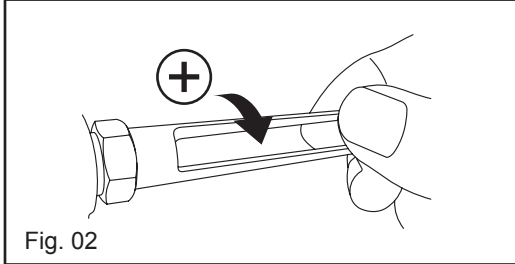
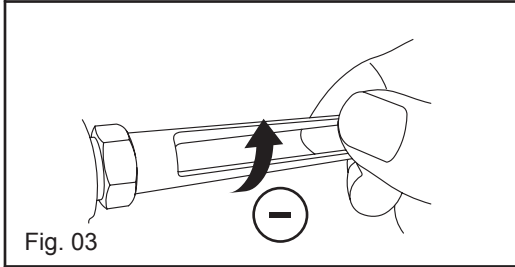

Fig. 02
Fig. 03
2. To activate the self-aspiration of the rivets and to set the desired suction turn vacuum switch (Fig. 02) counter-clockwise. Now the rivets can be set in any angle without having to hold them. Turn vacuum switch (Fig. 03) clockwise in case self-aspiration is not wanted or to be reduced.